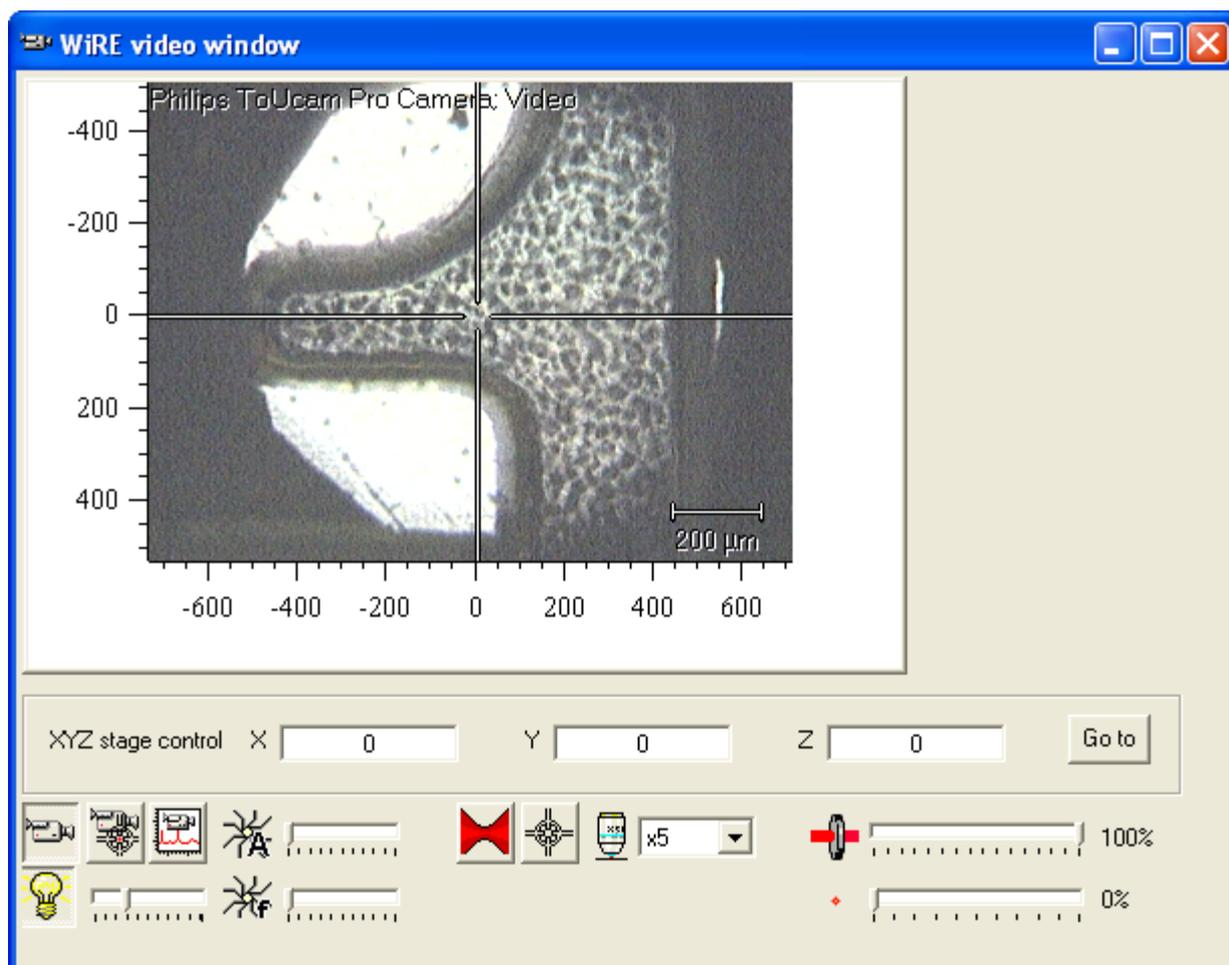

Figure 3 An example registration mark
1. Open the video and focus the crosshair on the desired feature with the objective to be used for data collection (Figure 3)
1. The option *Use safe stage movement* protects the objective against hitting the Micro-plate by moving the stage down (in the z direction) before moving it in x and y. The safe stage movement is only applied when using the *Go to* option on the video viewer (Figure 3), or on the *In well locations* window, for movements over 500 μm . This may be useful when short working distances are being used, but adds additional time to the measurement. At longer working distances, this is not required. If using this setting, check whether the value entered should be positive or negative. This depends upon the z axis set -up, and can be checked by moving the stage up or down with the joystick control, and noting the change in the z value in the video viewer window (Figure 3).